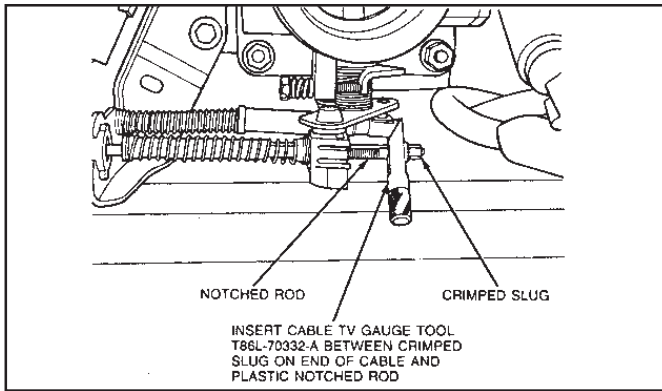

Figure 24
- 7.3 Insert tapered end of the tool between the crimped slug on the end of cable and plastic notched rod, also on end of cable assembly. Push in Cable TV Gauge Tool T86L-70332-A or equivalent forcing the crimped slug away from the plastic rod. Ensure gauge block is pushed in as far as it will go. **(See Fig. 24.)**